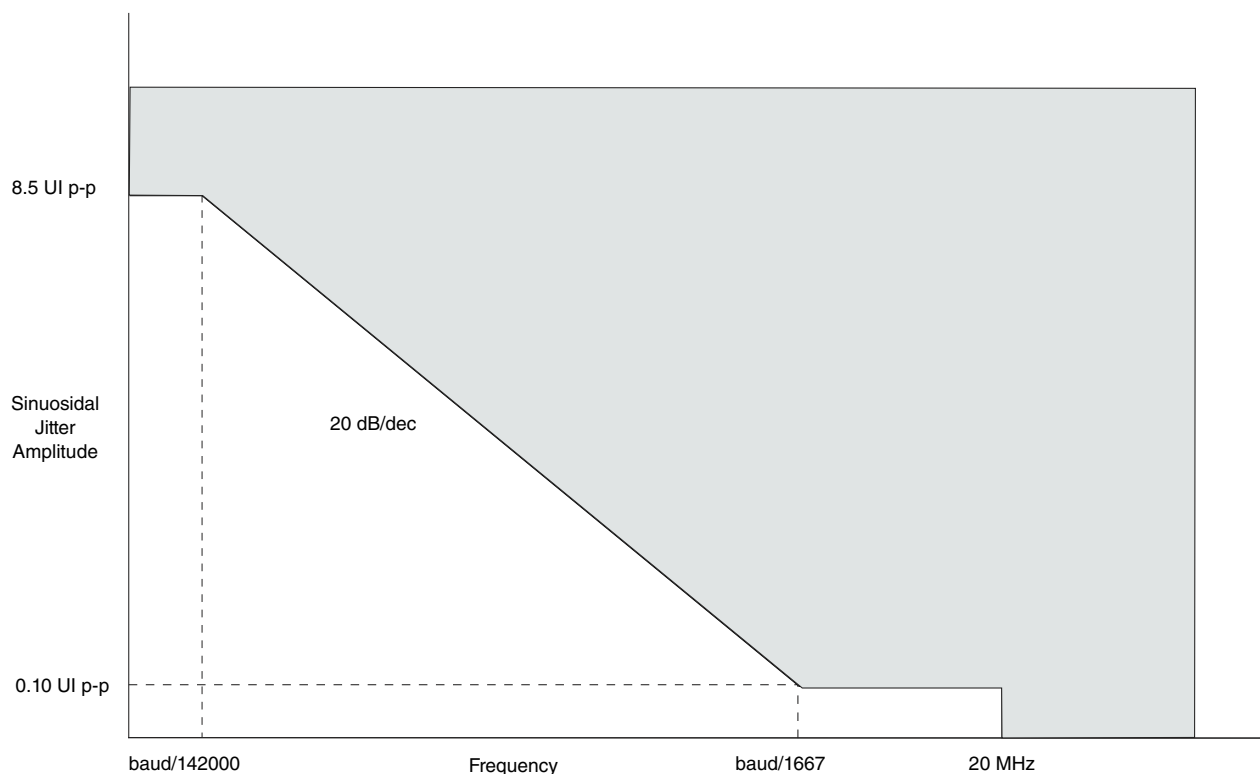

Figure 17. Single-frequency sinusoidal jitter limits
- See Figure 17 for single frequency sinusoidal jitter measurements.
| 2. Total jitter tolerance is composed of three components: deterministic jitter, random jitter, and single-frequency sinusoidal jitter. The sinusoidal jitter may have any amplitude and frequency in the unshaded region of Figure 17 . The sinusoidal jitter component is included to ensure margin for low frequency jitter, wander, noise, crosstalk, and other variable system effects. | | | | | | |